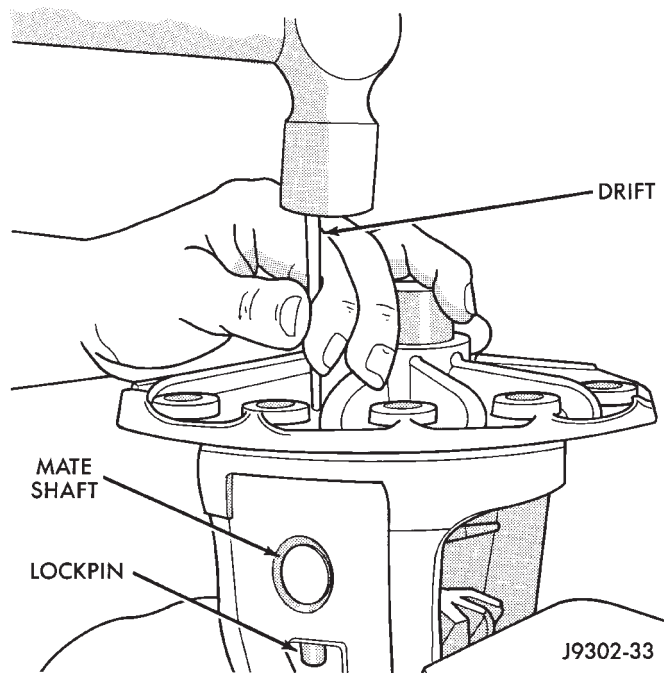

Fig. 40 Mate Shaft Roll Pin Removal
- (1) Remove the ring gear.
- (2) Using a suitable roll pin punch, drive out the roll pin holding pinion gear mate shaft in the differential case (Fig. 40).